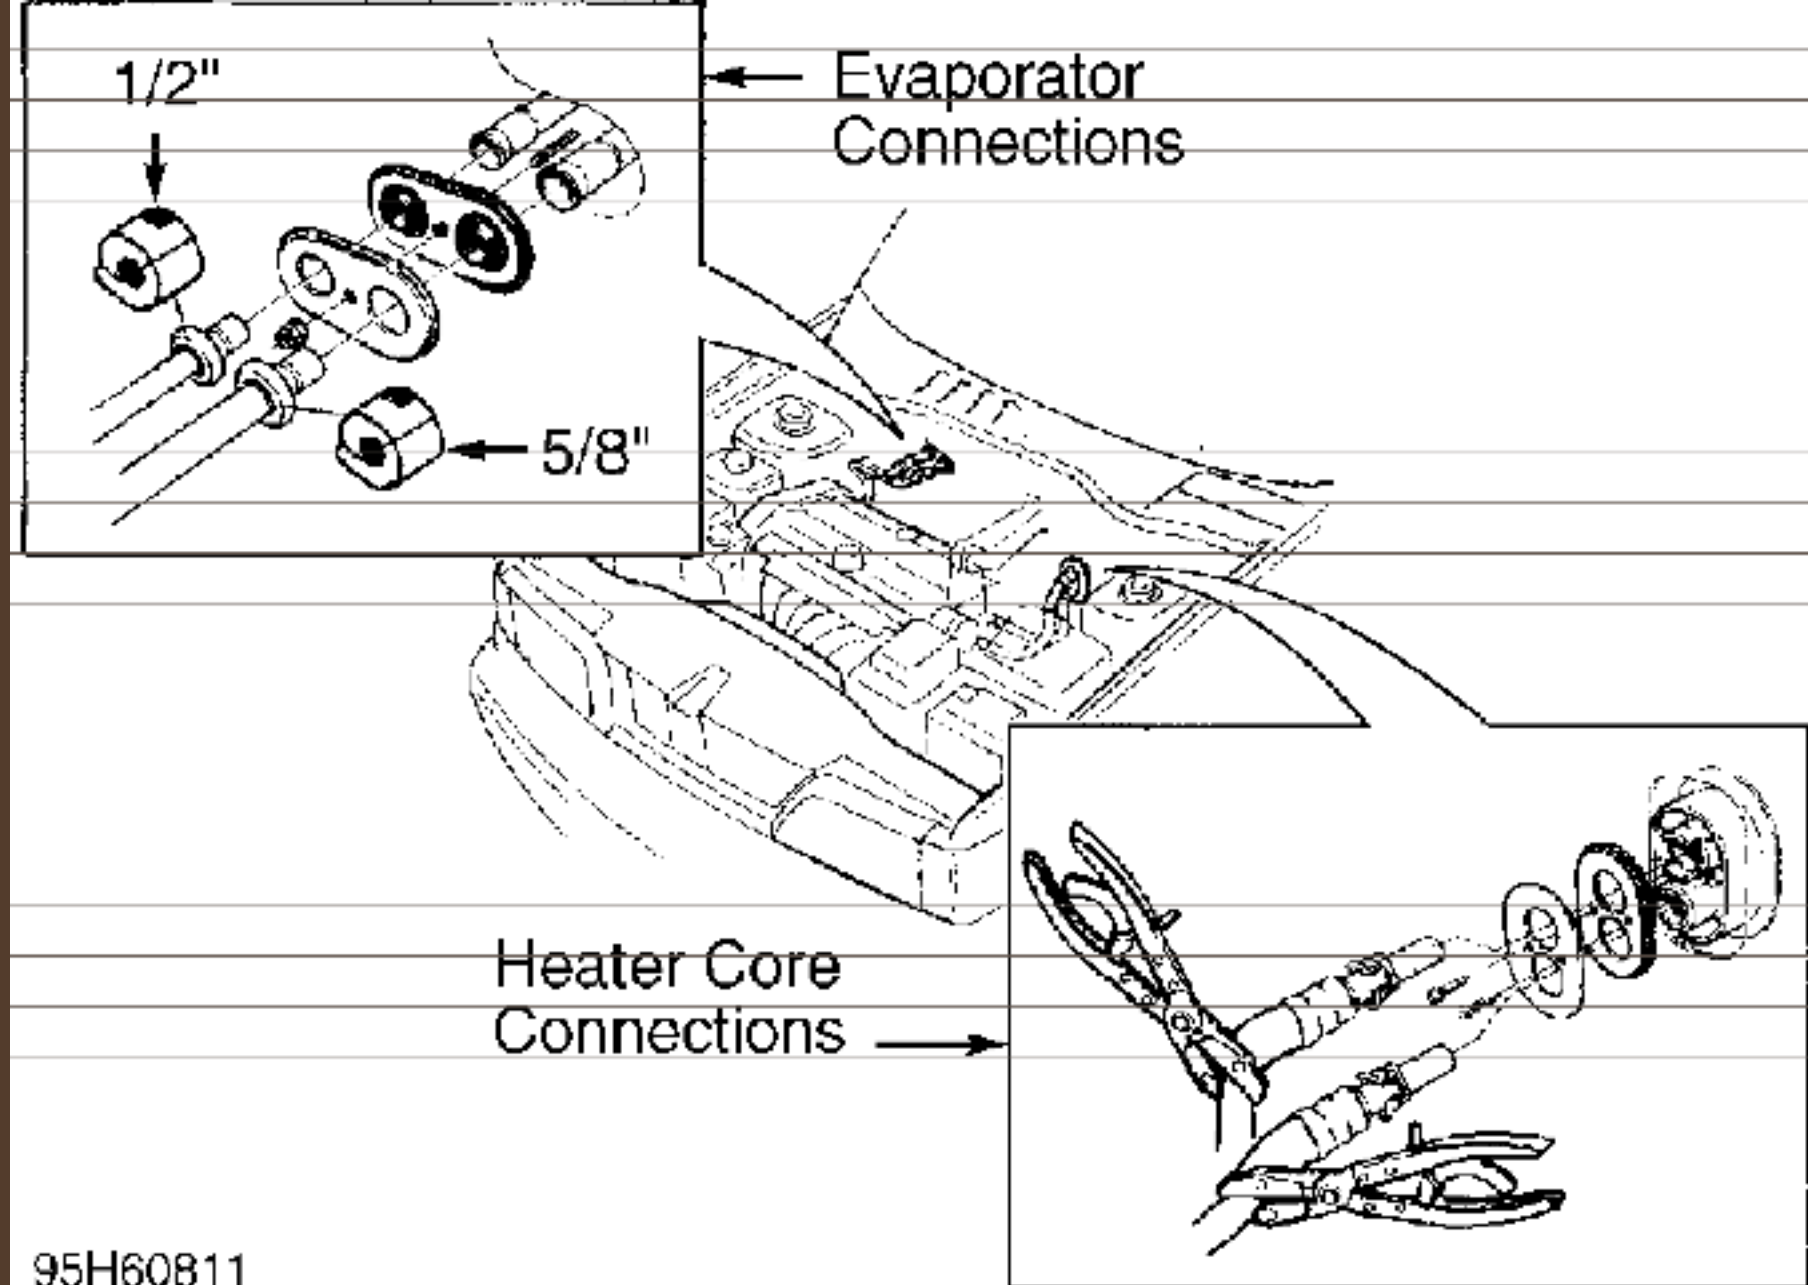

Fig. 17: Identifying Evaporator & Heater Core Connections
- 1) Disconnect negative battery cable. Remove dashboard assembly. See DASHBOARD. Discharge A/C system, using approved refrigerant recovery/recycling equipment. Disconnect evaporator inlet and outlet pipes, and cap both ends. Remove evaporator cover plate and gasket from firewall. See Fig. 17.